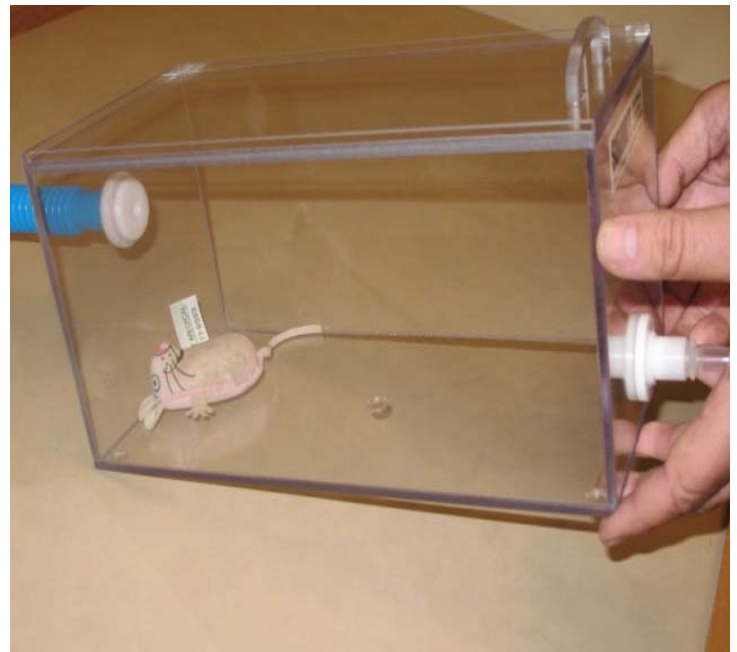

Figure 2
3. Lift the chamber at the end closest to the operator and gently slide the animal down to the far side. (see figure 2)